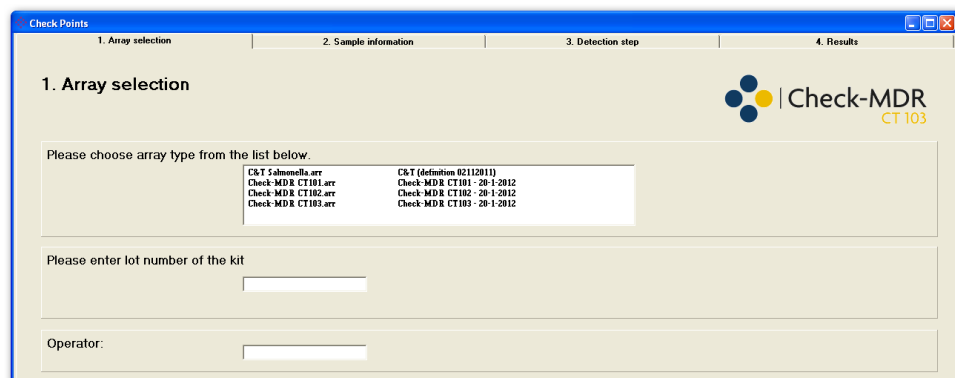

Figure 2: “Array Selection”.
- c. Double Click on “Check-MDR CT103.arr” in the first screen, “Array selection”, as shown in figure 2.